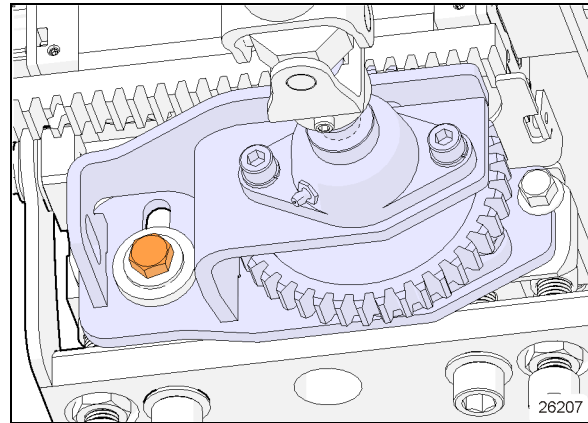

FIGURE 35: REMOVE TENSION. SLIGHTLY UNSCREW.
1. Slightly unscrew the slot screw to remove tension as shown in Figure 35
15. On the pinion assembly, tighten screw (Figure 35) to: **198 lb-ft (268 Nm)**